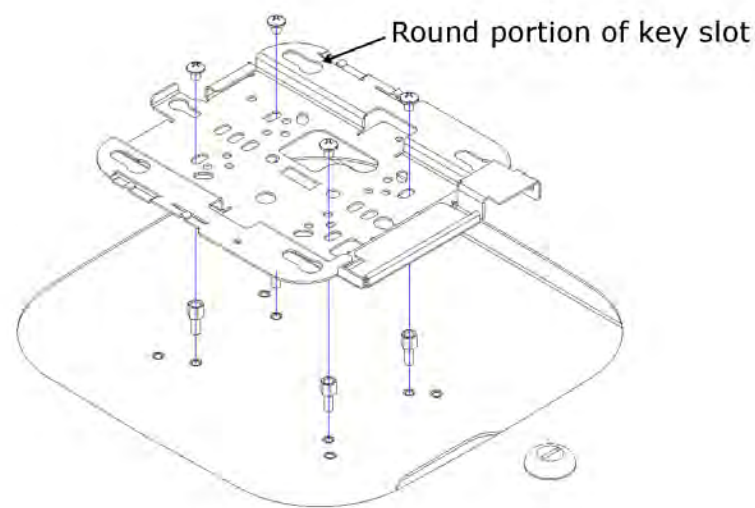

Figure 1 – Close-up showing proper orientation of the Cisco Bracket 2, refer to note for using standoffs
Step 2 – Turn the AP mount over so that the access point opening is facing upward. Install the Cisco mounting plate using four (4) #8-32 pan head screws. The mounting plate should be placed so that the round portions of the key slots are located closest to the enclosure lock (reference Figure 1). The Cisco "BRACKET 2" should be used with all Cisco 1400, 1600, 2600, 3500, 3600 and 3700 Access Points.